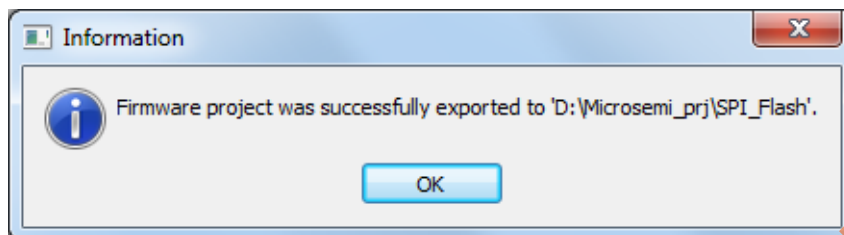

**Figure 17 • Export Firmware Dialog Box**
**Export Firmware** dialog box is displayed as shown in Figure 17.